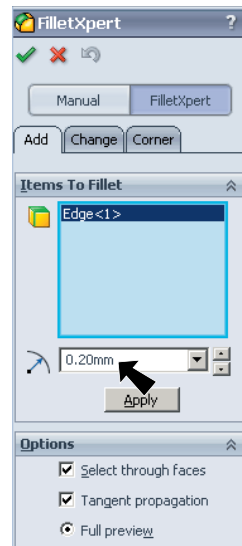

Fig. 13
- Step 2. Set the **Radius**  to .2 in the Fillet Property Manager, **Fig. 13**.